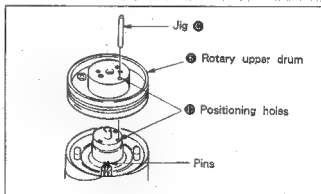

Fig. 7-47.
- 2) Use jig ⑤ (Ref. No. J-10) to line up rotary upper drum ⑥ and the positioning hole ⑦, and lightly insert the rotary upper drum. At this time, confirm that the pins stick up the hole of rotary upper drum board. Fix with tweezers if the pins catch. (See Fig. 7-47.)